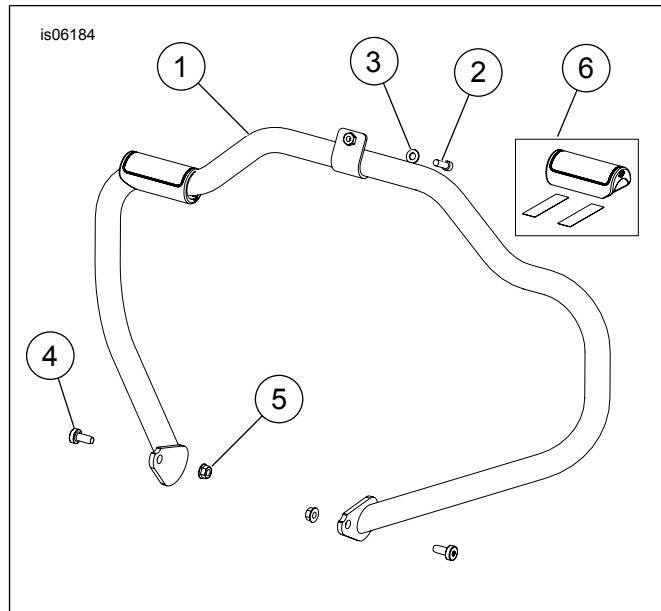

Figure 5. Service Parts: Mustache Engine Guard
See Figure 5 and Table 1.
1. See Figure 5 and Table 1. Insert tab at top of mustache engine guard (1) into slot at base of steering head.
2. Install hex socket head screw (2) and flat washer (3) to attach mustache engine guard. Tighten finger-tight.
4. Install two pan head tapping screws (4) and flanged locknuts (5) to attach mustache engine guard on inboard side of frame weldments.